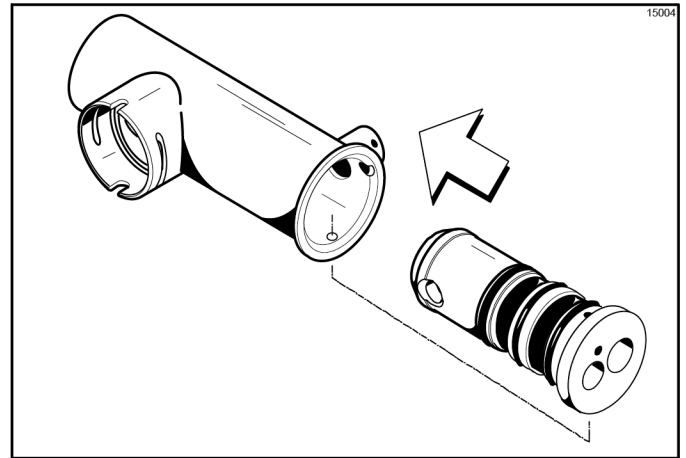

Figure 6-22
- Insert the assembled piston and liquid valve body into the pump cylinder and push upward. Align the steel button at the base of the valve body with the cut-out groove at the bottom of the pump cylinder. (See Figure 6-22.)